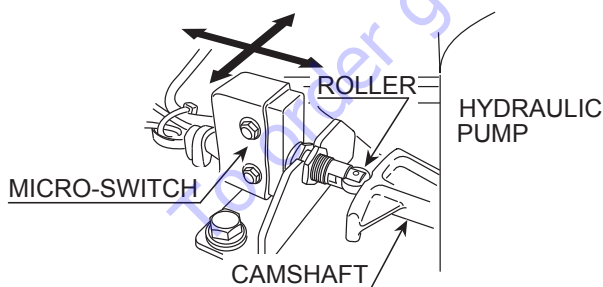

Figure 28. Micro-Switch Adjustment
3. Check and make sure that the roller at the end of the micro-switch is at the dent of the camshaft of the lever (hydraulic pump). Adjust if necessary (Figure 28).